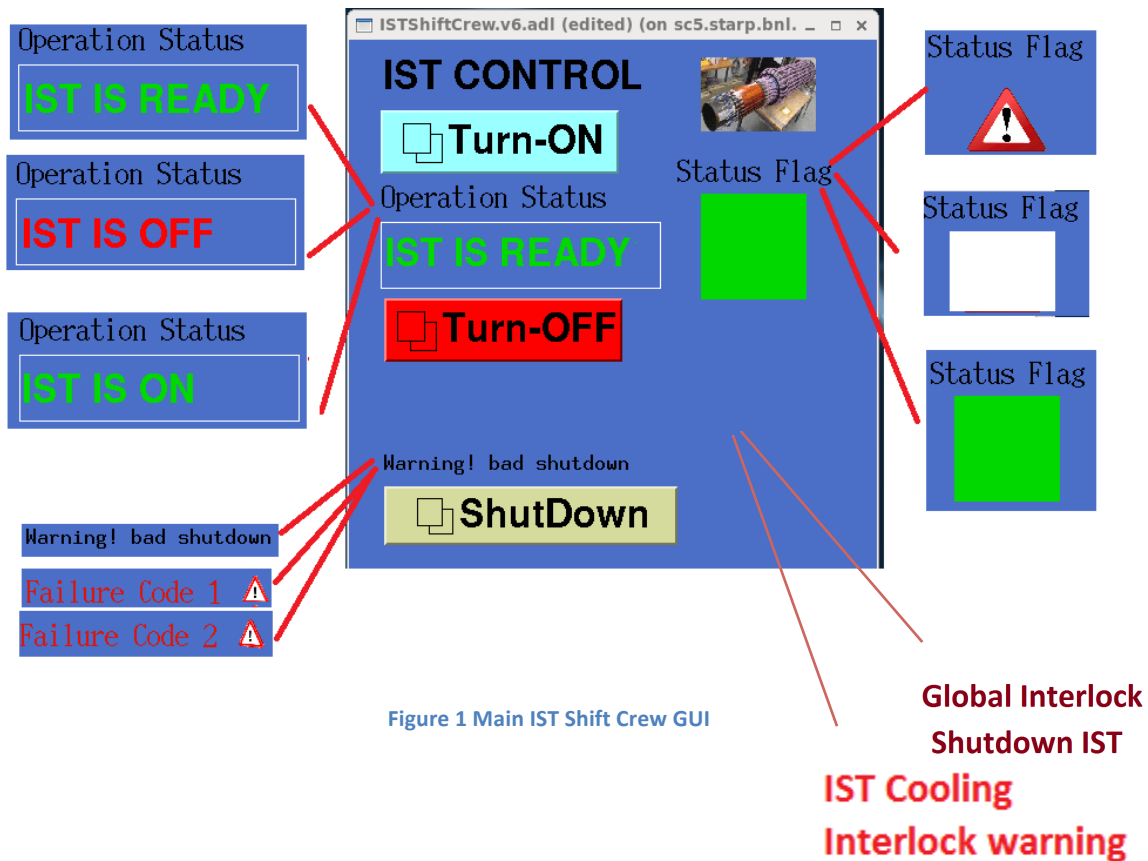
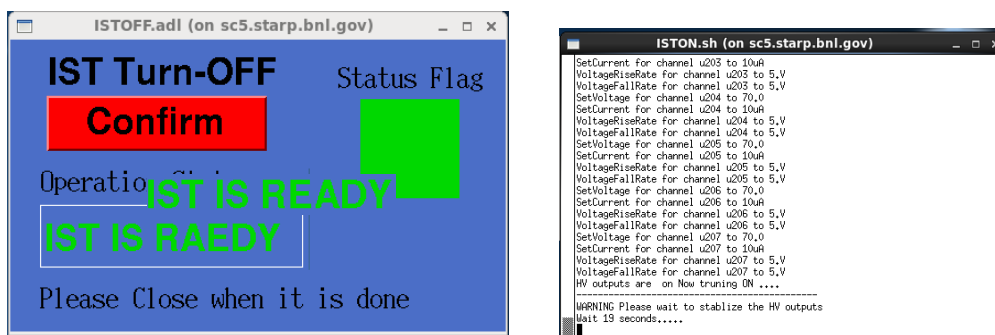
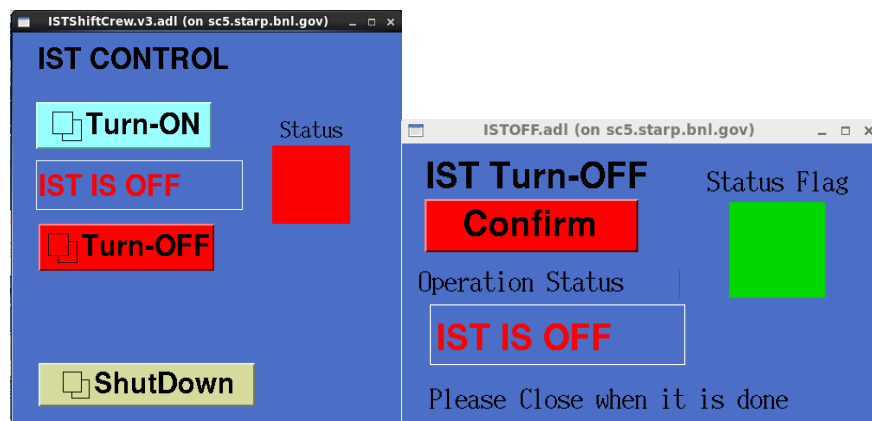
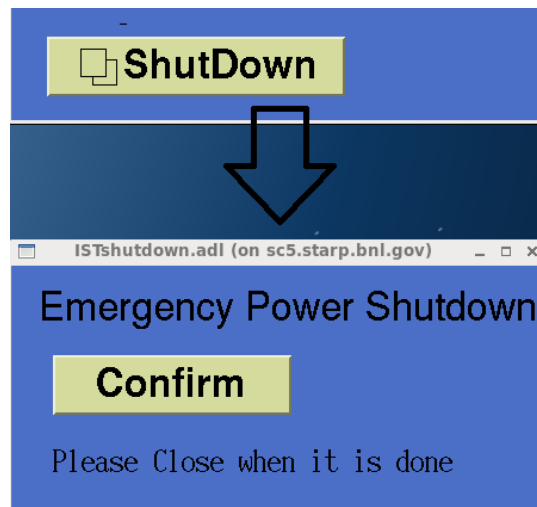

Figure 1 Main IST Shift Crew GUI
Figure 4 Left: IST Turn-Off Confirmation Window. Right: Pop-up terminal during turn-on.
Figure 5 IST Main GUI (Left) and Turn-off Confirmation Window (Right) after IST is successfully turned off
Figure 6 IST Emergency Power Shutdown Confirmation window.
The main IST GUI (Figure 1) should always be running on IST-OPS2, the PC on the left-hand side to the door when you enter the STAR control room (Display labeled as **IST-OPS2.STARTP.BNL.GOV**). In case it is not running, please start it according to instructions in section 6 how to start IST Main GUI. IST has 3 operation status and 3 status flags as following:
- 1- Click on **“Turn OFF”** button in the IST main GUI (Figure 1). A window (Figure 4 left) will show up to ask you for confirmation to turn off the IST.
- 2- Click on the **“Confirm”** button. A terminal (Figure 4 right) will show up, automatically executing the commands to turn off the IST. After about 60 seconds, the terminal (Figure 4 right) will disappear after the last command being executed. The IST status bar will become green indicating that turning off is successful and **“IST IS OFF”** (Figure 5).
- 3- Close the Turn-Off confirmation window (Figure 4 right) and inform the shifter leader that the IST is off.
- I. Close the Turn-Off confirmation window (Figure 4 right), then click on **“Turn OFF”** button again and repeat the above procedure.
1. Click on the “ShutDown” button in main GUI (Figure 1). A new window will pop up (Figure 6).